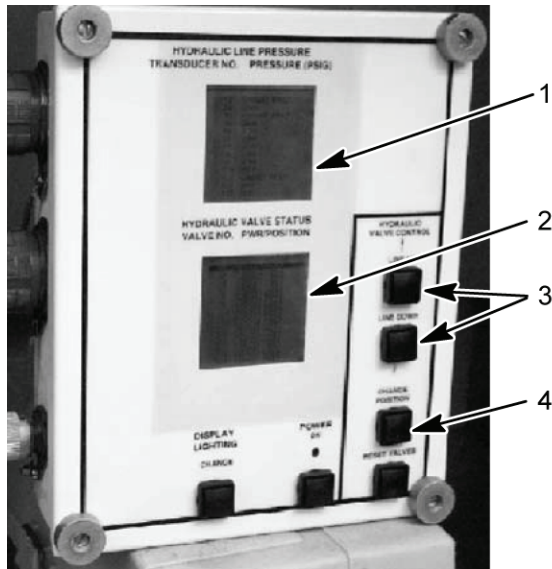

Figure 20. HDC Control Box
- Disable ejector by manually closing the ejector inhibit ball valve V23 (Figure 21, item 1) on the DCV bank. Using LINE UP or LINE DOWN button (Figure 20, item 3), select V1 on the HDC display (Figure 20, item 2). Close V1 on the HDC display (Figure 20, item 2), by selecting the CHANGE POSITION button (Figure 20, item 4) on the HDC control box.
- Have assistant start engine and hold EJECTOR CONTROL lever in the FORWARD position. Read transducer T-2 hydraulic pressure on the HDC display (Figure 20, item 1).
- Enable ejector by manually opening ejector inhibit ball valve V23 (Figure 21, item 1) on the DCV bank. Using LINE UP or LINE DOWN button (Figure 20, item 3), select V1 on the HDC display (Figure 20, item 2). Open V1 on the HDC display (Figure 20, item 2), by selecting the CHANGE POSITION button (Figure 20, item 4) on the HDC control box.